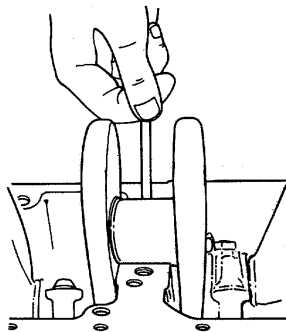

Figure 5-10. Bearing Removal.
- (5) Remove top half of the bearing shell (see Figure 5-10) by pressing on side opposite the locating tag. Use a sturdy stick; do not use a metal bar.